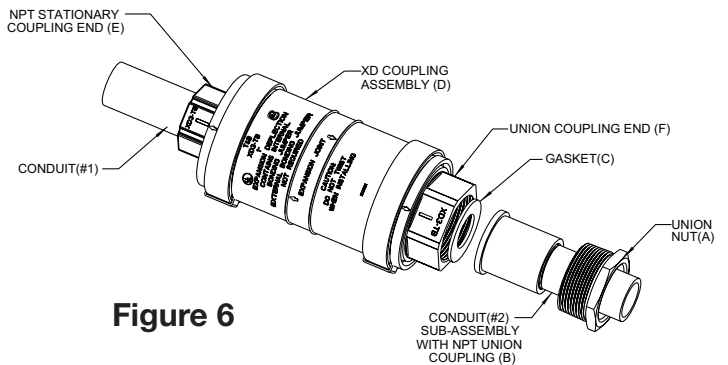

Figure 6
5. Slide conduit (#2) sub-assembly with NPT Union Coupling (B) into Union Coupling End (F) with Gasket (C) placed between them, to ensure rain-tight. See Fig. 6.